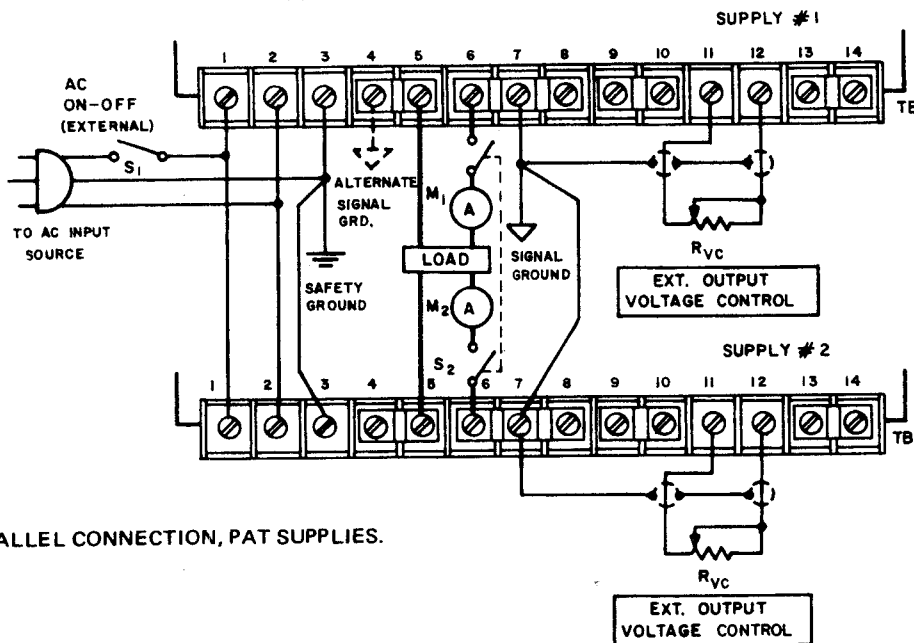

FIG. 3-13 PARALLEL CONNECTION, PAT SUPPLIES.
3-38 PROCEDURE (Refer to FIG. 3-13.)
- Connect units as shown in FIG. 3-13. Open SW-1 and SW-2 and connect to line.